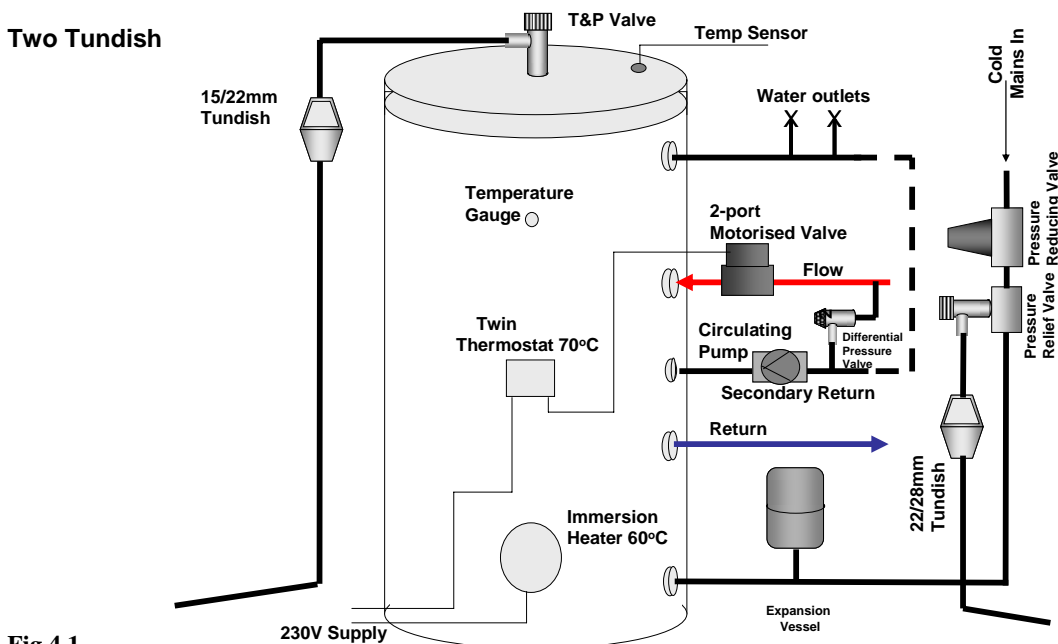

Fig 4.1
4.7. Pipework connections – All Pipework connections to the cylinder **MUST** be made in accordance with Fig 4.1 /4.1a, the secondary return being optional.
5.3. Connections -The primary flow and return connections should be made in accordance with Fig 4.1/4.2 using 28mm compression fittings, (not supplied).
7.1. Connections. Secondary circuit connections **MUST** be made to the cylinder in accordance with Fig 4.1/4.2. A drain cock (not supplied) should be fitted in the cold water inlet to facilitate draining of the cylinder.
6.4. Inlet Group – The inlet valve group (consisting of non-return valve; line strainer; pressure reducing valve; and expansion relief valve) should be installed in the cold water supply to the cylinder with the arrow pointing in the direction of water flow in accordance with Fig 4.1/4.2. This can be connected to a supply pressure of between 1.5 and 12 bar. No other valve should be fitted between this group and the cylinder.
6.7. Secondary circulation – If the “HPC” cylinder installation requires a secondary circulation circuit, a 15mm return leg, which incorporates a check valve should be connected to the secondary return of the cylinder See fig 4.1/4.2.